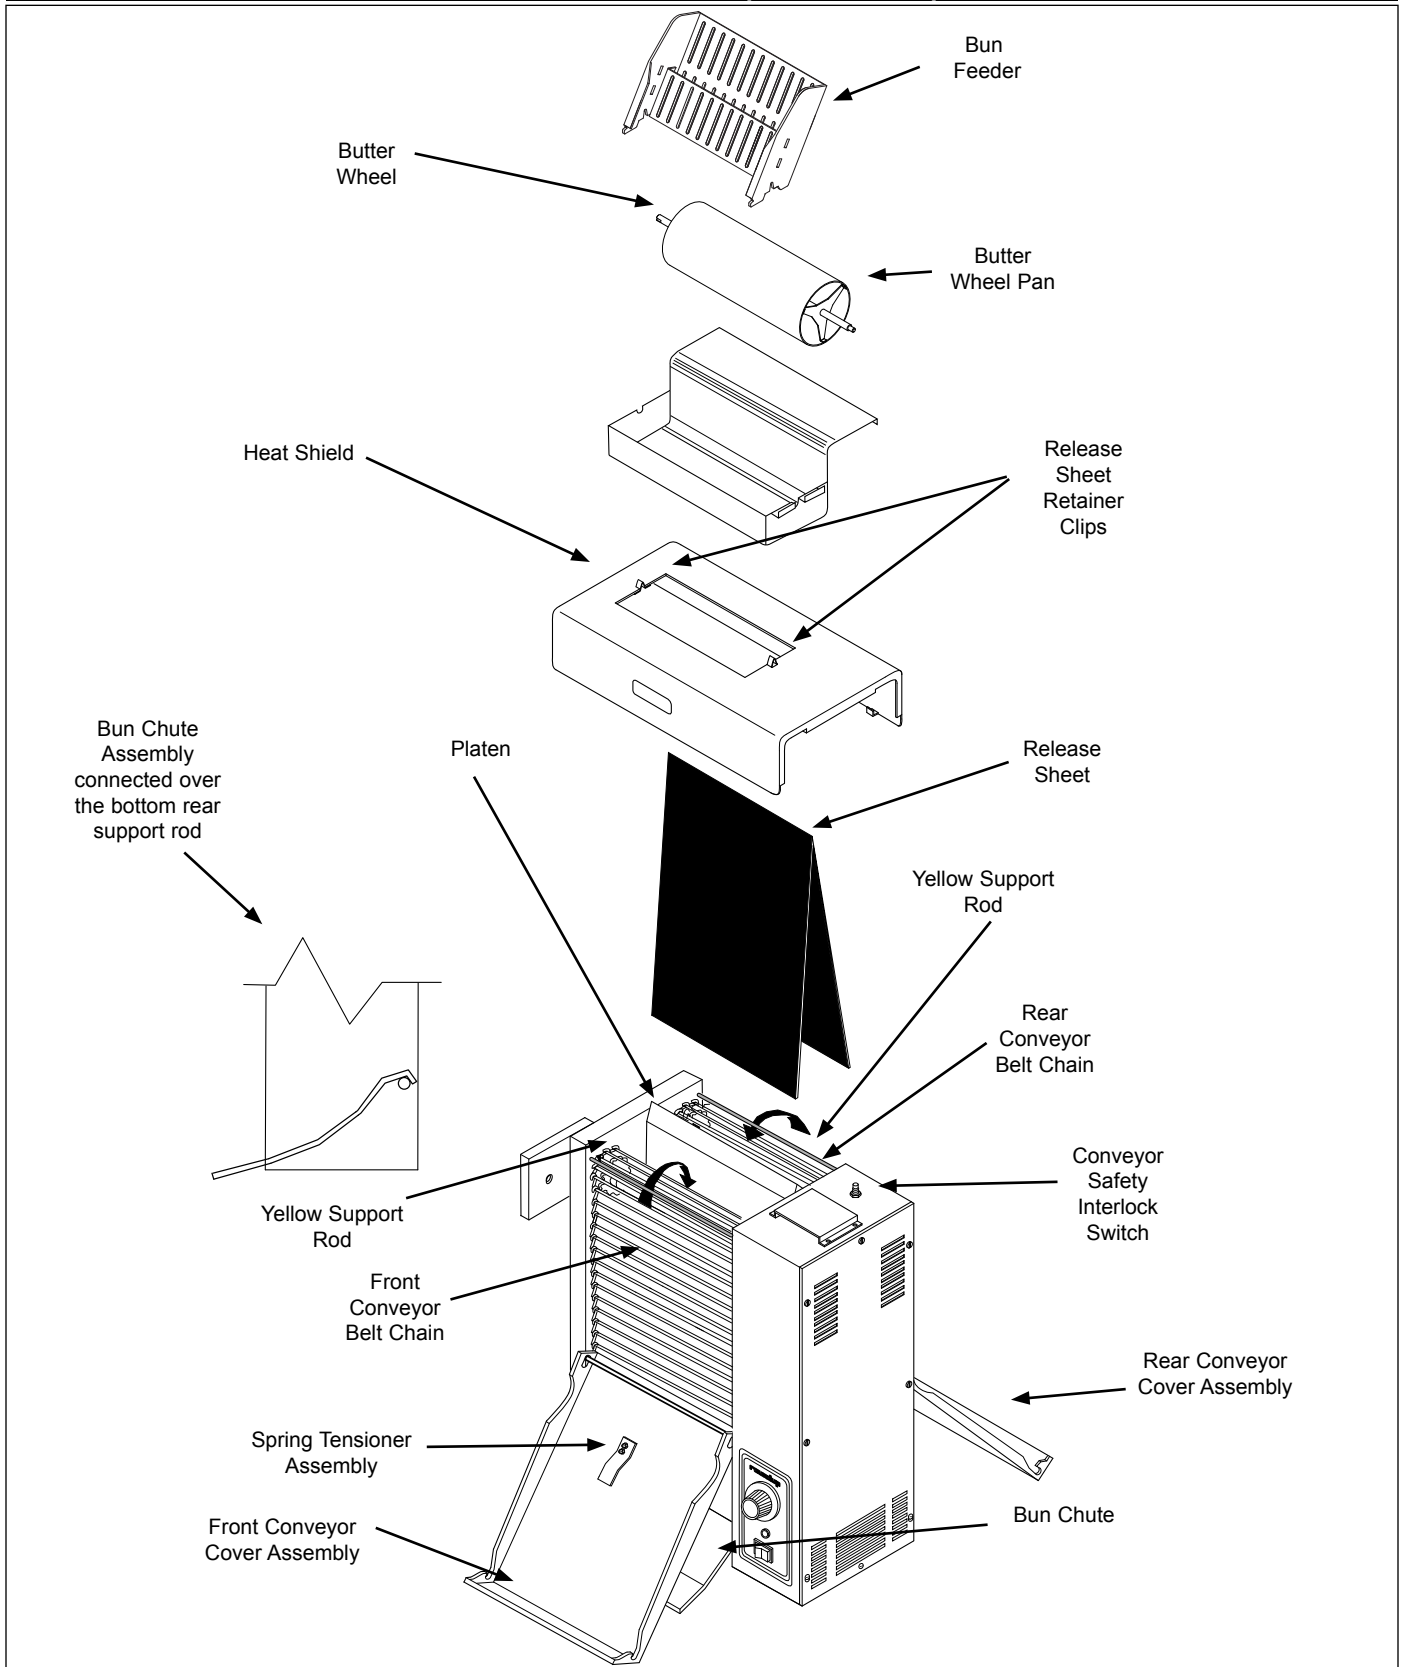

Figure 1. VCT-1000 Toaster With Mechanical Driven Butter Wheel
- Bun Chute (Figure 1)
- Butter Wheel and Pan (Figure 1)
- Two Release Sheets (Figure 1)
NOTE: The factory has pre-installed a Release Sheet over the Platen (Figure 1). Verify that it is properly in place before proceeding.
1. Remove Bun Chute from the box and install (Figure 1).
3. Install the Pan over the front edge of the Heat Shield and place the Butter Roller in pan and engage in to gear case (Figure 1).
IMPORTANT: Make sure Heat Shield is activating the Conveyor Interlock Switch (Figure 1). The conveyors will not rotate unless the Heat Shield is in place and switch is activated.
Verify that the Release Sheet is installed completely over the Platen (Figure 1) before proceeding. Failure to use Release Sheet may cause permanent damage to the Platen surface that is NOT covered by warranty.
A Conveyor Interlock Safety Switch is located on top of the unit under the Heat Shield (Figure 1). **The Conveyor Belt Chains will NOT rotate unless the Heat Shield is seated properly in place and activating the Conveyor Interlock Safety Switch.**
2. Put on heat-resistant gloves and remove the Butter Wheel, Pan, Heat Shield, and Bun Chute (Figure 1).
7. Open the front Conveyor Cover and firmly wipe the Conveyor Belt Chain (Figure 1) from left to right and top to bottom with a clean towel dampened with **Multipurpose Detergent Solution** immediately followed by a second clean towel dampened with sanitizer solution.
2. Remove the Bun Feeder, Butter Wheel, Pan, and Heat Shield (Figure 1) and set the Bun Thickness Compression Knobs to 6 & 6.